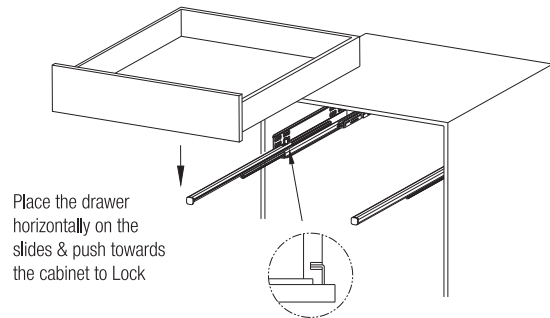

Fig. 4
6. Place the drawer horizontally on the slides, push towards the cabinet until the drawer gets locked automatically (Refer Fig. 4).